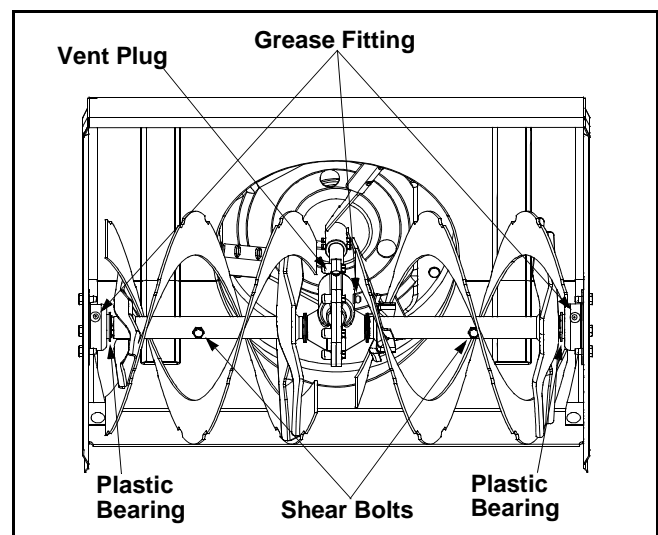

Figure 11
The gear case is equipped with a grease fitting on the left housing and should be lubricated every 25 hours. See Figure 11.
At least once a season, remove the shear bolts on the auger shaft. Spray lubricant inside the shaft. Also lubricate the plastic auger bearings at least once a season and grease the fittings on the end of the auger shaft with a standard grease gun. See Figure 11.
- The augers are secured to the spiral shaft with two shear bolts and hex lock nuts. If you hit a hard foreign object or ice jam, the snow thrower is designed so that the bolts may shear. Refer to Figure 11.